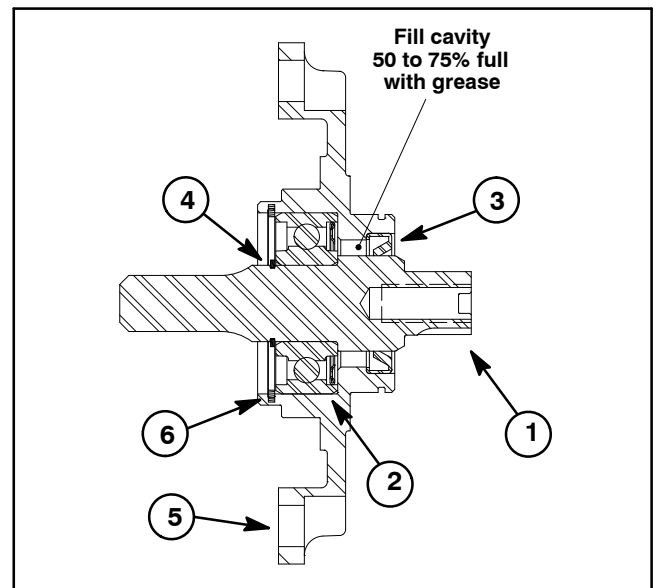

Figure 16
1. Install bearing on drive shaft by pressing equally on the inner and outer bearing races. Install the bearing so that the bearing seal is closest to the shoulder on the shaft. Install retaining ring (item 7) onto shaft to retain bearing.
3. Fill cavity between bearing location and grease seal 50% to 75% full with high temperature Mobil XHP-222 grease (or equivalent) (Fig. 16).
4. Carefully slide shaft and bearing fully into pivot hub bore taking care to not damage the grease seal. Install retaining ring (item 8) to secure bearing in pivot hub.
5. Install new O-ring (item 10) into groove in pivot hub flange.
6. Slide idler plate onto pivot hub and secure with retaining ring (item 4).